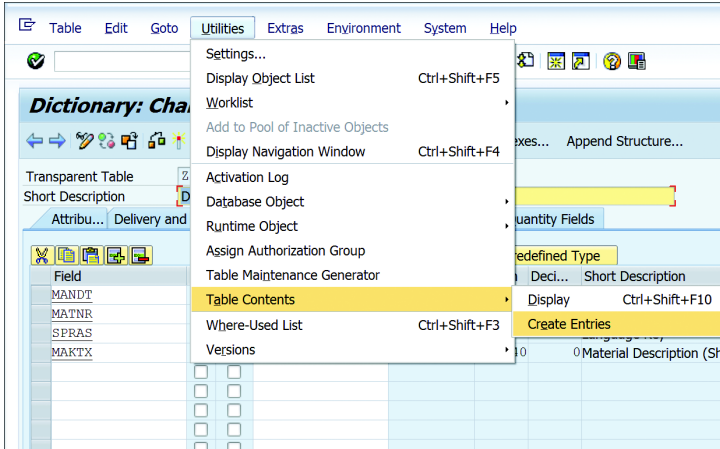

Figure 10.23 Create Entries
- Here, use event 05, which is triggered when creating a new entry. In the subroutine, you're checking if the `SPRAS` field is empty and throwing an error message accordingly. You can test the implementation by opening the table in Transaction `SM30` or using the menu path `UTILITIES • CREATE ENTRIES` from the table maintenance screen, as shown in Figure 10.23.